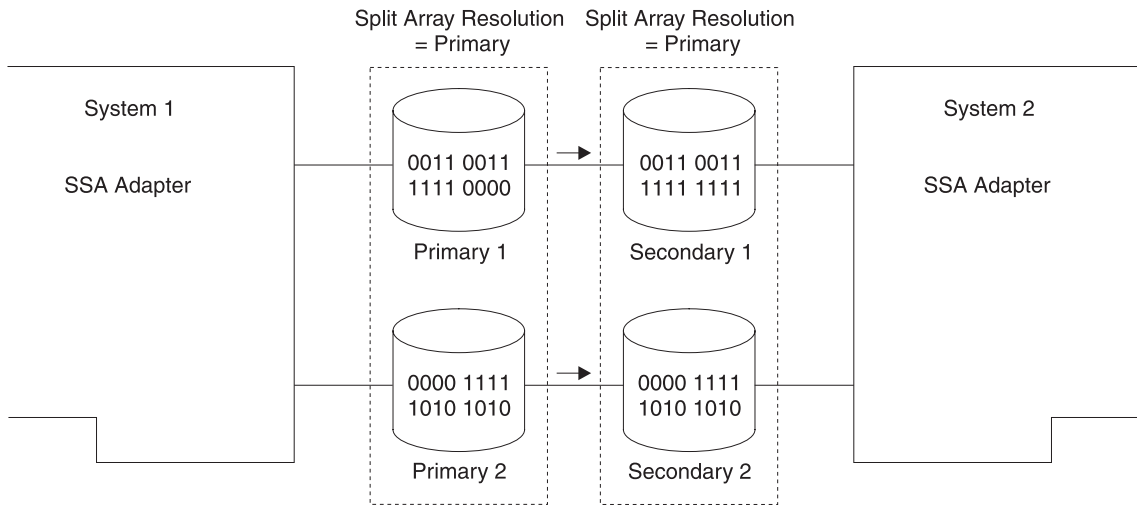

Figure 20. Reconnection of a Split Array
**Normal Reconnection:** When the systems are reconnected, the secondary disk drives are resynchronized with the primary disk drives, as shown in Figure 20.